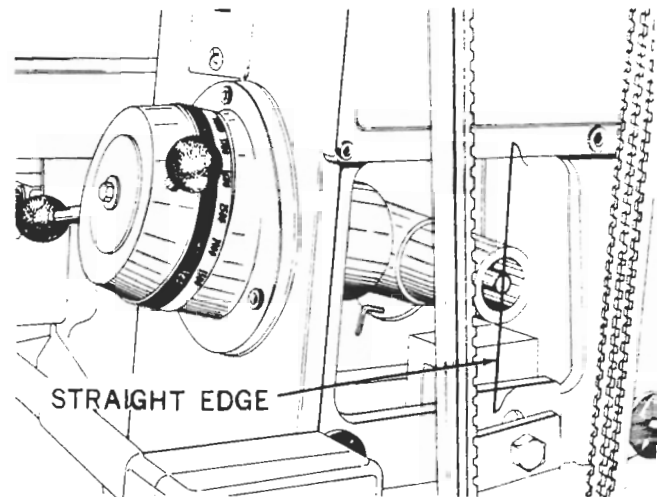

Figure 19
6. The end of rod (E) must be flush with face of housing (D)—use a straightedge to check as shown in figure 19.